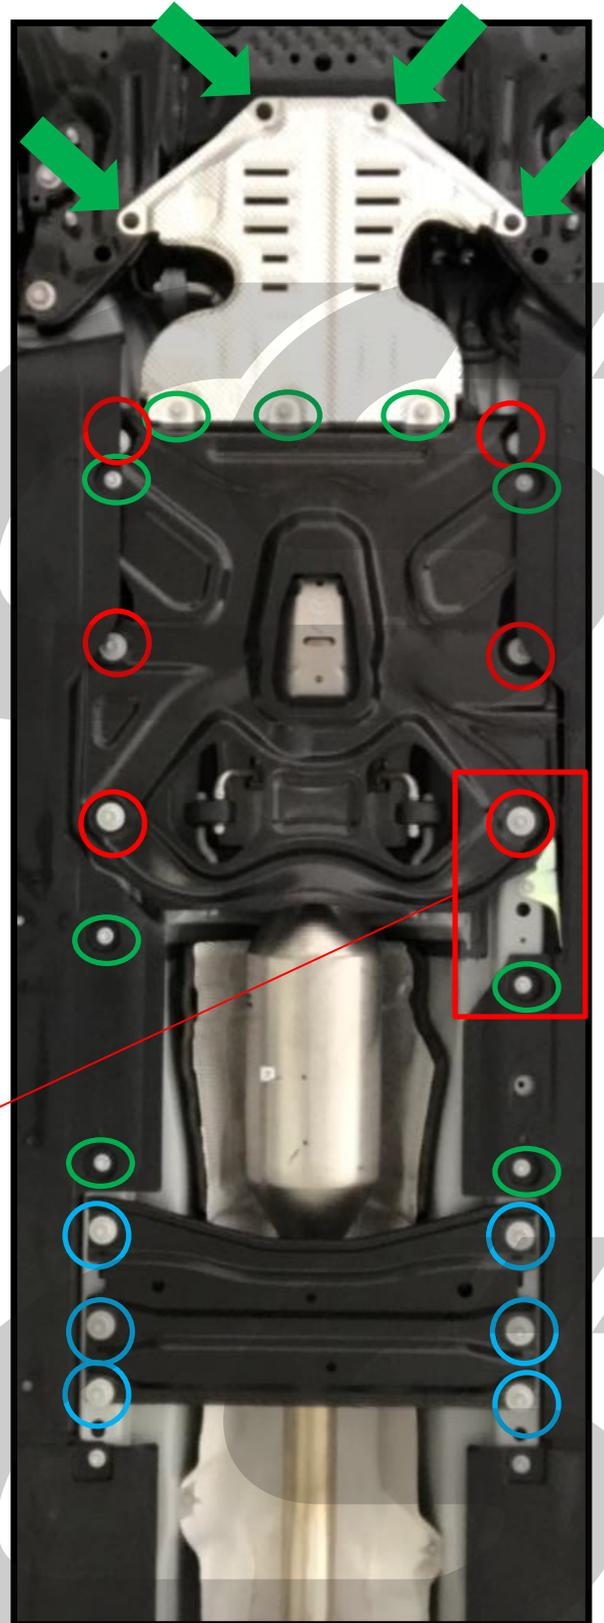

Figure 3a
- a) **Remove the cat heat shielding.** Pry out the four(4) plastic push clips with a flat blade screw driver (green arrows in Figure 3a).
- b) **Use a 10mm socket wrench to remove the nine (9) bolts** (green circles in Figure 3a).
- c) **Remove the cat skid protection plate.** Un bolt the six (6) 12mm bolts (red circles) with a socket wrench. Slide the plate to one side to free it from the under body aero panels (Figure 3a).
- d) **Remove the mid body chassis brace** by using a 12mm socket to remove the six (6) bolts (blue circles in Figure 3a).